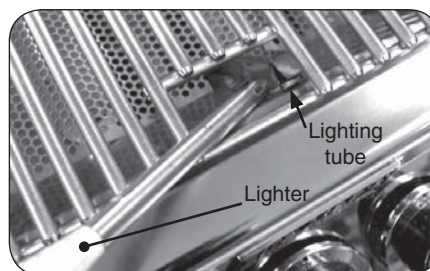

Fig. 13-2 - Manual lighting
**CAUTION:** Always wait five (5) minutes for gas to clear after any unsuccessful lighting attempt.
2. Insert either a burning long-barrel butane lighter or a burning long-stem match through the cooking grid opening to the top of the lighting tube. (Fig. 13-2). For backburners, hold the flame against the perforated material of the backburner.
4. If the burner does not light, **immediately depress the knob and turn the valve to OFF**. **WAIT FIVE (5) MINUTES** before repeating steps 2 through 4 of the **MANUAL LIGHTING** instructions.